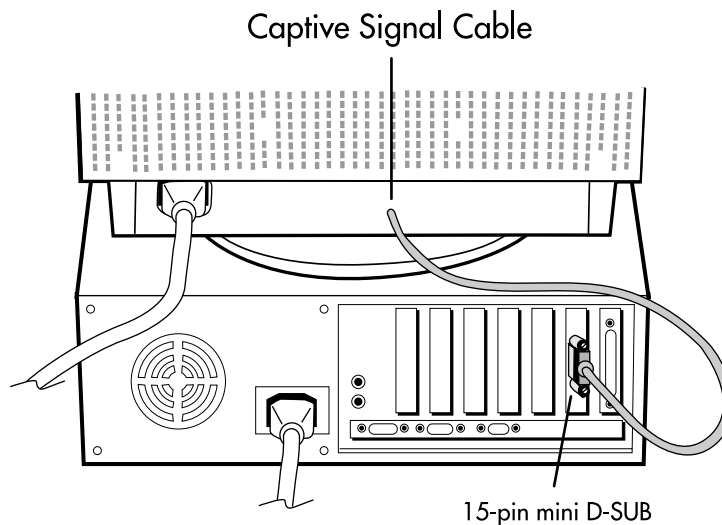

Figure A.1
3. For the PC: Connect the 15-pin mini D-SUB of the captive signal cable to the connector of the display card in your system (**Figure A.1**). Tighten all screws.